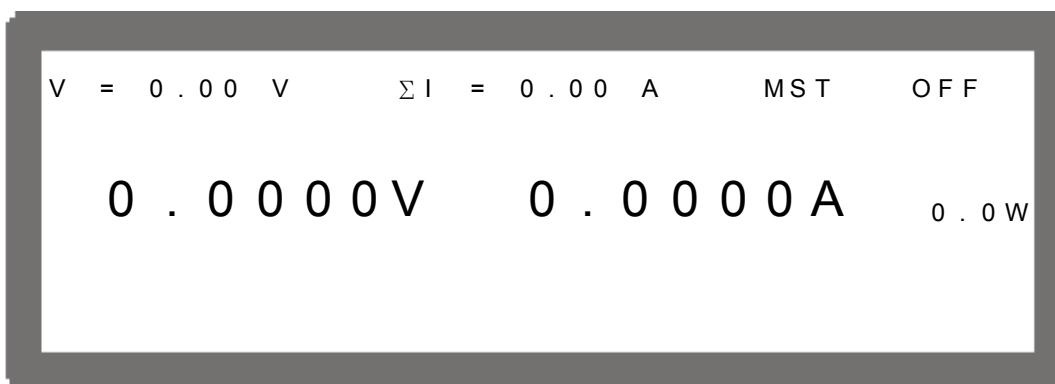

Figure 3-43
3. Press “” to confirm; it will skip to the series/parallel MASTER page automatically as shown in Figure 3-43.